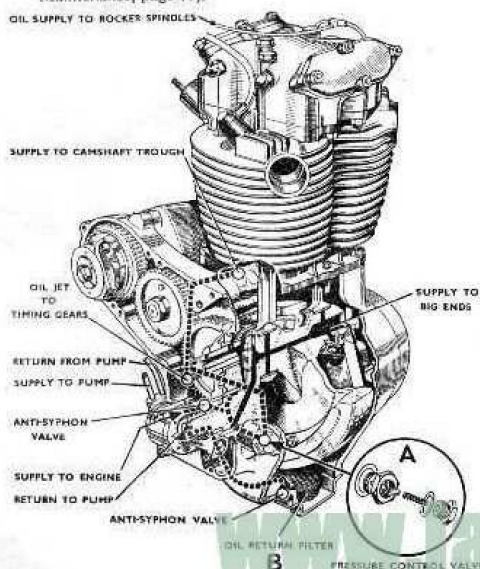

Fig. 2.—ENGINE LUBRICATION
The engine lubrication system (see Fig. 2) is of the dry sump type operated by a double gear pump, situated in the bottom of the timing case. All oilways are internal except for the supply and return pipes from the tank and the oil feed to the valve rockers. The oil flows from the tank—through a filter in the tank—to the supply portion of the pump, which delivers it past an automatic anti-syphon ball-valve to the timing side main bearing and thence to the hollow crankshaft and the big-end bearings, whilst a further internal oilway supplies oil via a pressure control valve to the timing gears and camshaft trough.
side of the pump and the big-end bearings. This is pre-set to control the pressure in the supply system, and it should be examined periodically—say every 1,000 miles—to ensure that it is operating freely and not impeded by the presence of even tiny particles of foreign matter. The construction of this valve is shown in the exploded view A, Fig. 2, and if it is dismantled, the parts should be thoroughly rinsed in petrol before reassembly.
The crankcase filter B (Fig. 2), can be withdrawn after removing the cover plate.
Remove and examine for cleanliness, as described on page 14, and illustrated at A (Fig. 2).
2. The crankcase filter B, (Fig. 2), which can be withdrawn after removing the cover plate.